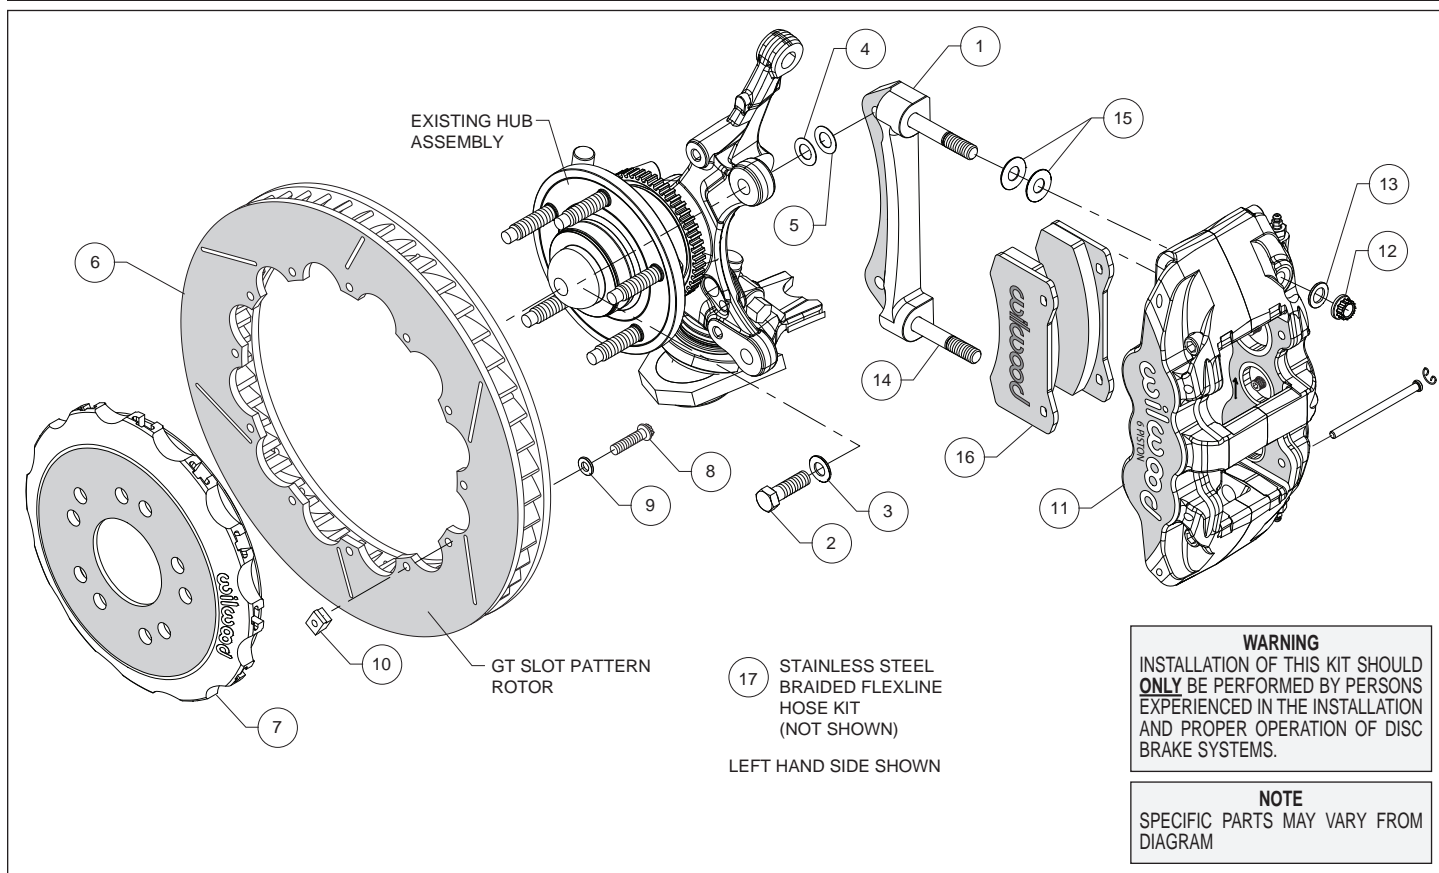
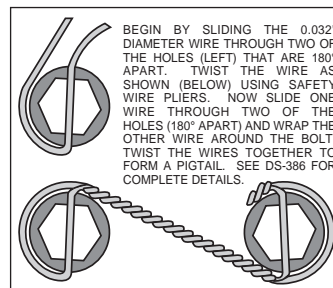

Figure 1. Typical Installation Configuration
Figure 4. Safety Wire Diagram
Assembly Instructions (numbers in parenthesis refer to the parts list and Figure 1 on the preceding pages):
- The caliper mount bracket (1) should initially be installed with clean, dry threads on the mounting bolts. Orient the bracket, as shown in Figure 1 and Photo 1, and install using bolts (2) and washers (3). Initially place one .033" thick shim (4) on each bolt between the bracket and upright, Figure 1. Temporarily tighten the mounting bolts. **NOTE:** *The bracket must fit squarely against the mount bosses on the upright.* Inspect for interference from casting irregularities, machining ridges, burrs, etc. Later, after the caliper alignment has been checked, the mount bolts will be secured using red *Loctite*® 271.
- Orient the rotor (6) and the hat (7) as shown in Figure 1 and Photo 2. Attach rotor to hat using bolts (8), washers (9), and t-nuts (10), Figure 1. Follow additional instructions included with the bolt kit. Using an alternating sequence, apply red *Loctite*® 271 to the threads, and torque to 120 in-lbs. For an added measure of security, the bolts may be safety wired using standard 0.032 inch diameter stainless steel safety wire as shown in Figure 4. Refer to Wilwood's data sheet DS-386 (available at www.wilwood.com/Pdf/DataSheets/ds386.pdf) for complete safety wire installation instructions.
- NOTE:** *This kit contains distinct right and left hand calipers that must be mounted in a specific direction, as described below.* Lubricate the caliper mounting studs (14) with lightweight oil. Initially place two .030" thick shims (15) on each stud between the caliper and the bracket, as shown in Figure 1 and Photo 3. Mount the caliper (11) onto the bracket (1) using lock nuts (12) and washers (13), Figure 1. Temporarily tighten the lock nuts. Ensure that the caliper is mounted so the largest pistons are at the rotor exit end of the caliper, in relation to the direction of the rotor. View the rotor through the top opening of the caliper. The rotor should be centered in the caliper, Photo 4. If not, adjust by adding or subtracting shims (4 and/or 5) between the bracket and the upright. Always use the same amount of shims on each of the two mounting bolts. Once the caliper alignment is correct, remove the bracket mounting bolts one at a time, apply red *Loctite*® 271 to the threads, and torque to 60 ft-lbs.
- Remove the two pad retaining pins from the caliper (11) by carefully popping out the pin retaining clips and sliding out the pins. Insert the brake pads (16) into the caliper from the bottom, Figure 1 and Photo 5. With the friction material facing the rotor, secure the brake pads in place with the pad retaining pins and clips, Photo 6. Reinstall the caliper onto the caliper mounting bracket and temporarily tighten the lock nuts. Check that the top of the brake pad is flush with the outside diameter of the rotor, Photo 7. If not, adjust by adding or subtracting shims (15) between the caliper and the bracket. After the caliper pad height is set, torque the caliper lock nuts (12) to 47 ft-lb.